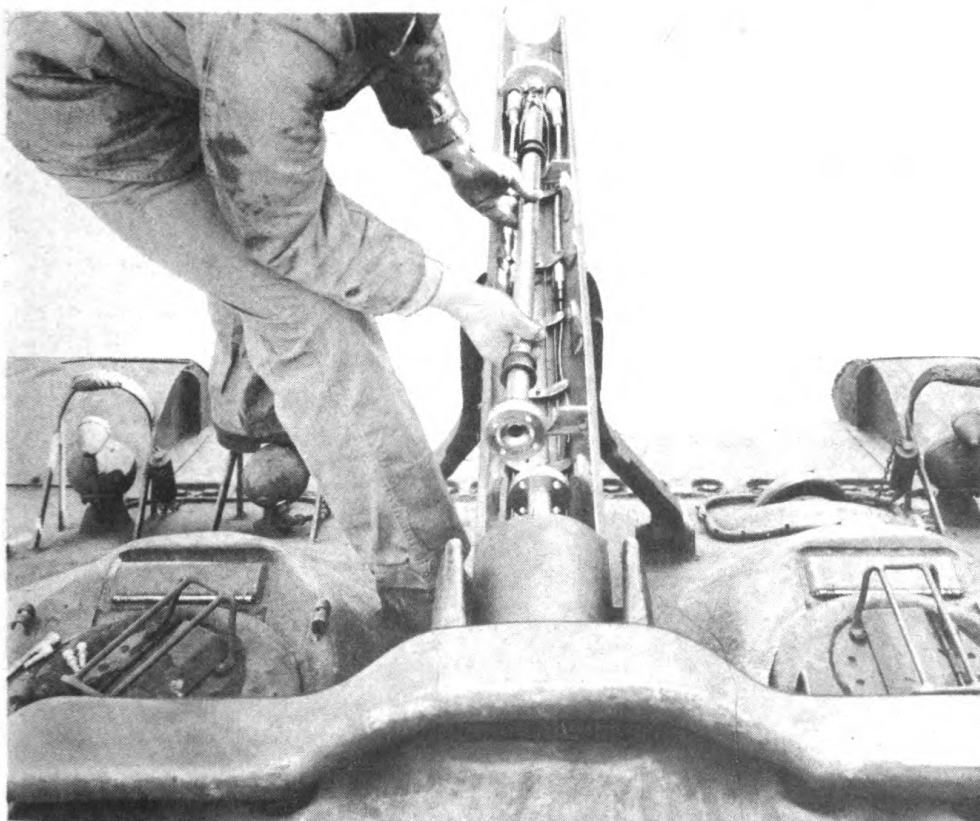

Figure 53—Removing long nozzle extension.
- (1) Remove the eight screws holding special dummy 75-mm. rifle tube cover.
- (2) Lift off tube cover.
- (3) Remove four hex socket head cap screws from long nozzle extension flange.
- (4) Slide long nozzle extension forward slightly until flange seat is cleared; then lift flange end and move nozzle rearward until forward end of long nozzle extension is clear of atomizer nozzle, at front end of dummy tube (fig. 53).
(5) On removal from the flame gun, clean the long nozzle extensions thoroughly, using a rifle cleaning rod and swabs soaked with motor fuel. All thickened fuel must be removed from the bore before it has dried, otherwise the nozzle may become clogged.
(6) Clips have been provided on the forward hull wall for storage of the long nozzle extension not in use. The location of the clip is behind the ammunition box above the transmission housing. This location is accessible to the assistant driver.